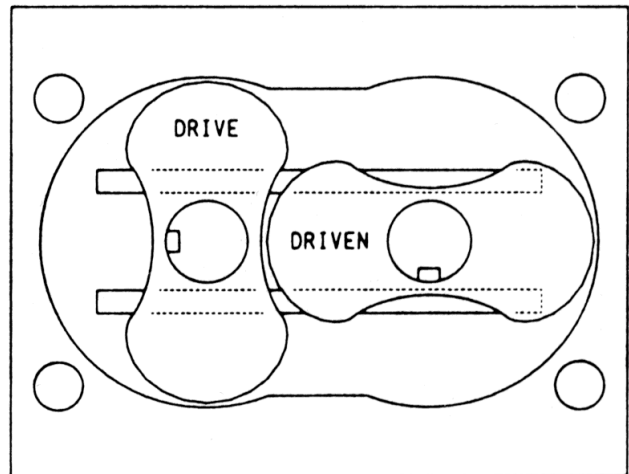

Figure 5. Rotor Alignment for Timing
4. Place free end plate item (4) with flat side up on a pair of 4"x 4" block. Endplate must be blocked so rotor shafts will not touch the floor. Do not install O-ring at this time.
5. Set housing item (3) in place, being sure dowel pins are installed. Do not bolt at this time.
7. Set each rotor into position in the housing with the gear end (long shaft) up. Face keyways in the direction shown in Figure 5. This will position the rotors so they will match the keyways in the gear.
8. Grease four O-rings item (233) and install in gear end plate. Run a continuous bead of sealer, about 1/8" wide around the perimeter of the housing, encircling each bolt hole and dowel pin. This is not require if O-rings item (176) have been furnished. Mechanical seal units only.